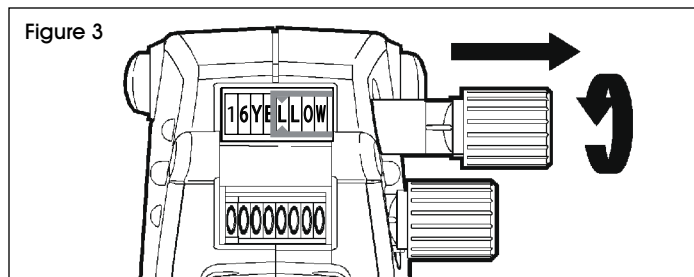

Figure 3
2. Pull/push the knob until the indicators are on the desired band. (See Figure 3)
3. Turn the knob until the desired character appears between the indicators. To print a blank, select the blank space for that band. (See Figure 3)